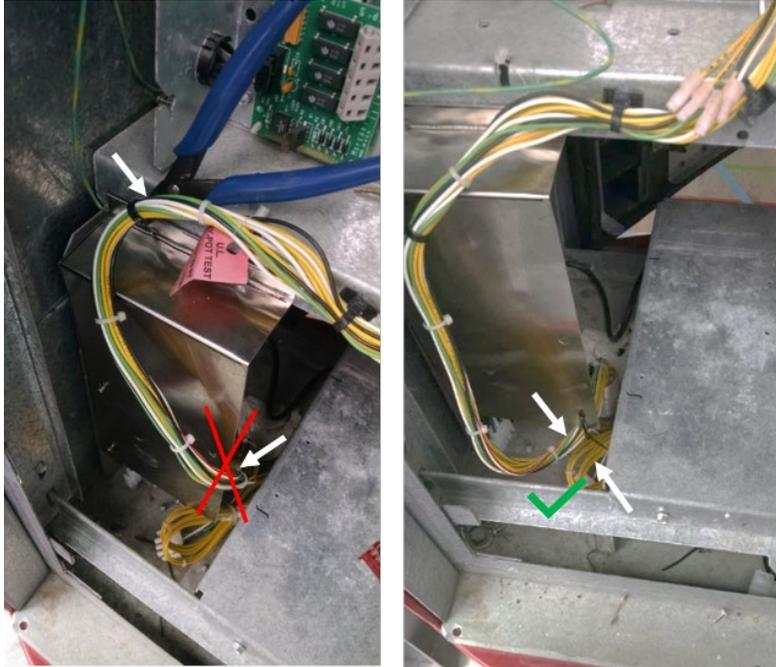

Figure 180
- 6) First cut the cable restraint to enable more cable slack, then tucking cable bundle under the bracket and securing with supplied cable tie (006-8616073) through the existing hole as shown in Figure 180 below.